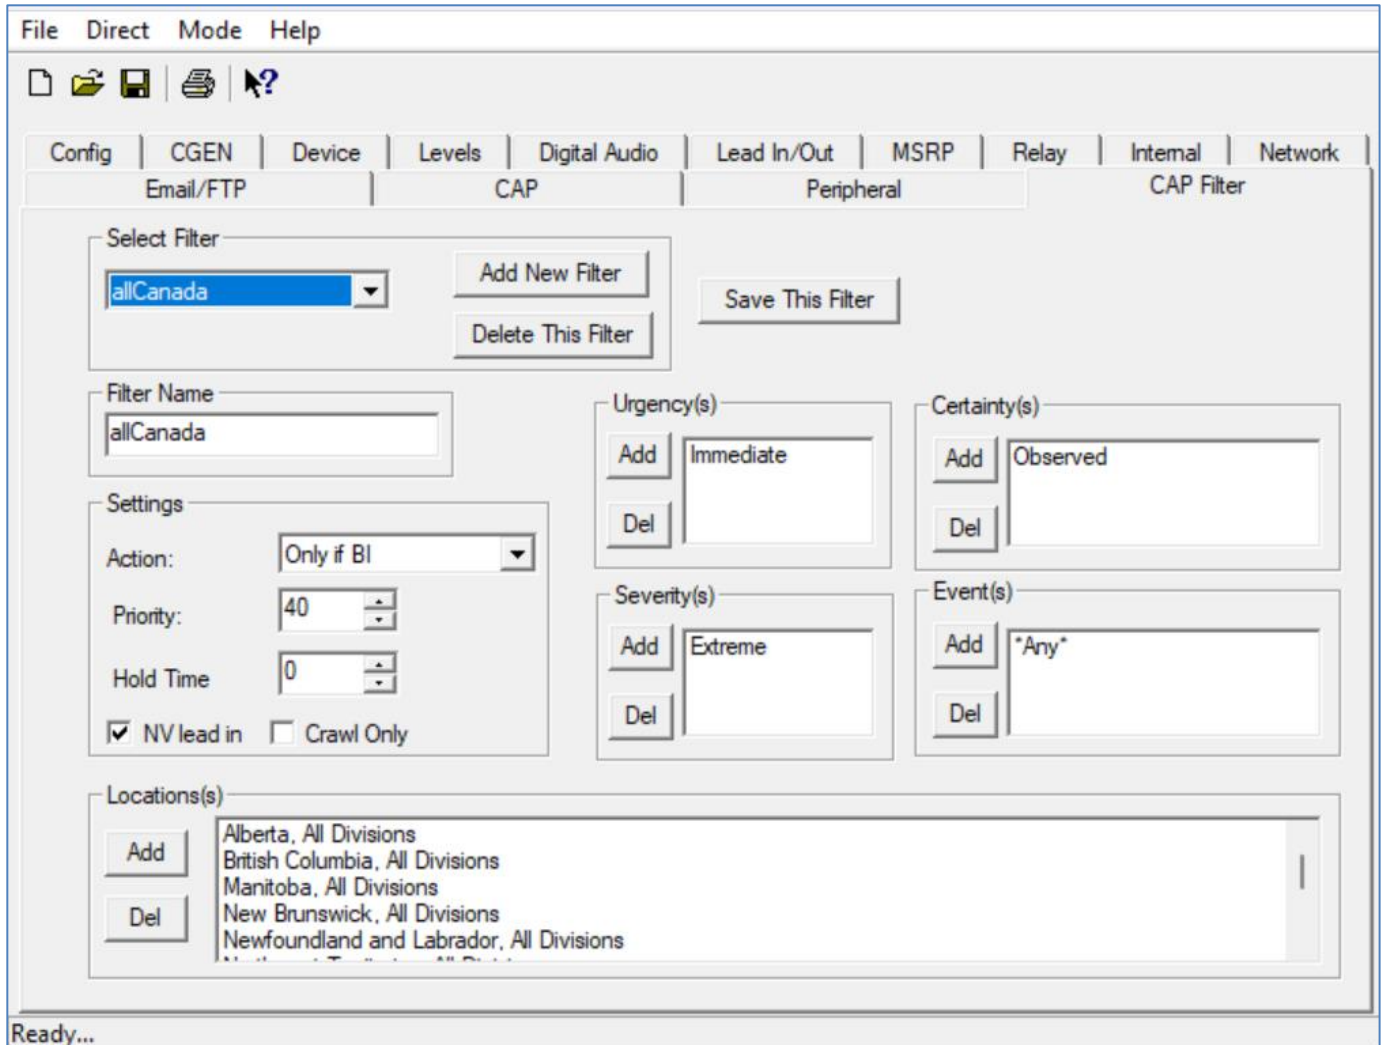

Figure 11.
3.14.1 CAP Filter tab shown in Figure 11 allows you to select, create, edit, or delete CAP filters for the Endec. There can be multiple filters created for various functions. At a minimum, you need to have one filter which specifies the locations covered by the station to receive alerts.